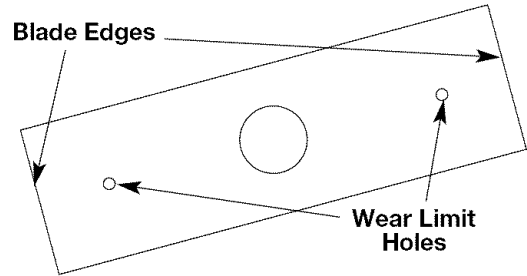

Fig. 18
- Check the blade condition. As it wears it becomes smaller, thus reducing the cutting depth performance. Replace with a new blade when the blade has worn to the blade's wear limit holes (Fig. 18).